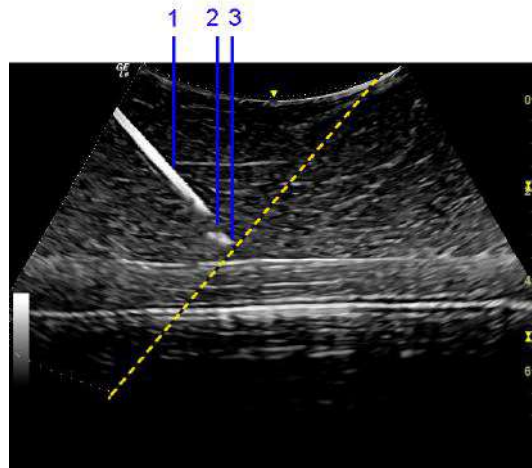

Figure 5-4. Example of needle that is too steep
**NOTE:** The beam divergence and effects of beam steering with a transducer may prevent a segment of the needle shaft from showing in the image if the needle angle is too steep (Figure 5-4).